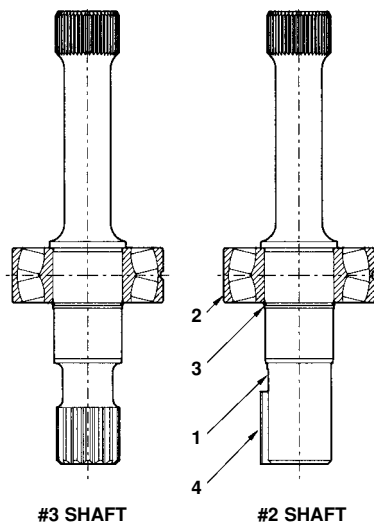

FIGURE 1
See figure 1. Slide the bearing (2) over the short end of the shaft and seat against the shoulder. Support only the inner race of the bearing and press on the long end of the shaft, to install bearing.
PARTS LIST FOR FIGURE 1 S23-12474 DRIVE SHAFT #3 ASSEMBLY SPLINED S23-12475 DRIVE SHAFT #2 ASSEMBLY KEYS